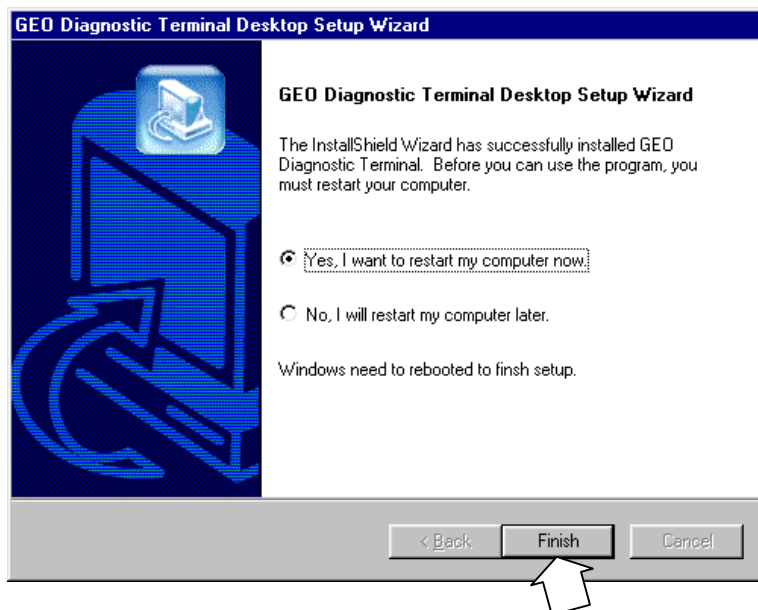

Figure 2-9
14. The “GDT Restart” window (figure 2-9) is displayed. Select the radio button desired for rebooting and click on **Finish** (normally, the computer should be restarted now, if installation is finished).